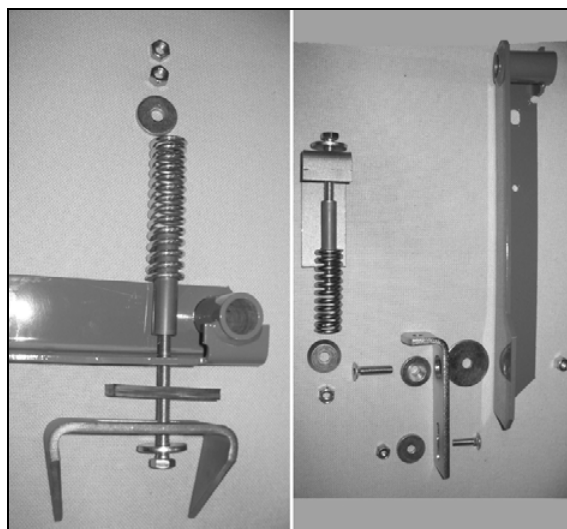

Fig. 28
- Grease the surface on the inside of the crop elevator (C) where the bearing bracket is moving.
- Mount the bearing bracket in the crop elevator. Tighten the nut (A) hard. Tighten the nut (B) enough to eliminate any play between the spring bracket and elevator side panel, but only so much that the spring bracket is able to move.
- Compress the spring (3) at a length of  $124\pm 2$  mm.
**Note:** The mounting order for the various elements is shown in (Fig. 28).